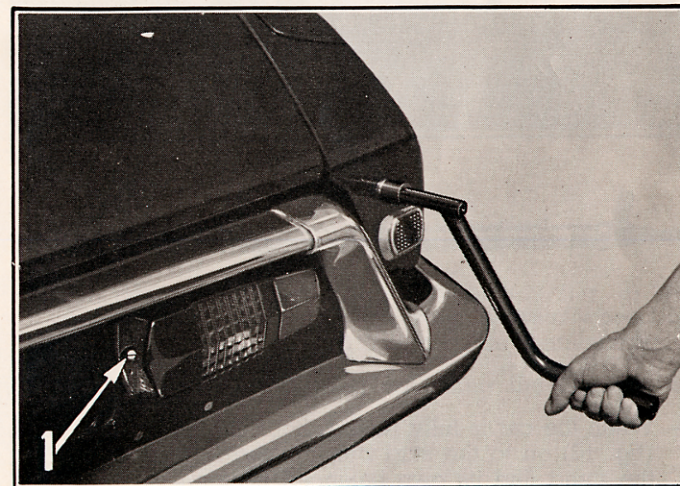
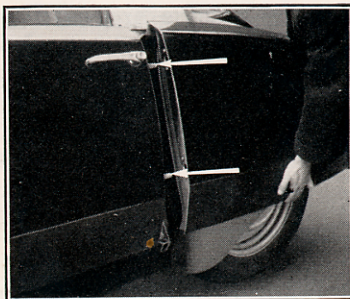

Figure 9
Figure 10
- Take the tool kit and spare wheel from under the hood. If the rear wheel has to be changed, remove the wing, unscrew the nut (fig. 9) with the crank handle, then pull the wing towards the rear (fig. 10) lifting it slightly.
Each rear lamp housing contains a spare bulb. To replace a worn out bulb, dismount the transparent housing by removing the screw 1 (fig. 9).